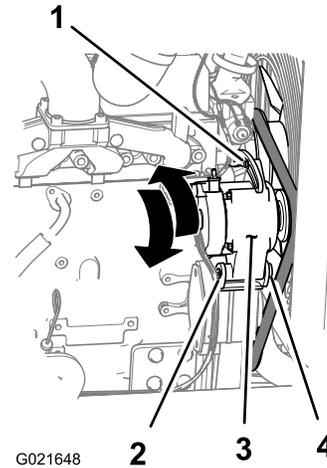

Figure 115
3. Loosen the nut and bolt at the pivot point for the alternator (Figure 115).
4. Loosen the adjustment bolt on the alternator (Figure 115).
5. Move the alternator away from the engine to increase the belt tension; move the alternator toward the engine to decrease the belt tension (Figure 115).
6. Tighten the alternator adjustment bolt (Figure 115).
8. If the belt tension is correct, tighten the nut and bolt at the pivot point for the alternator (Figure 115); otherwise, repeat steps 4 through 7.